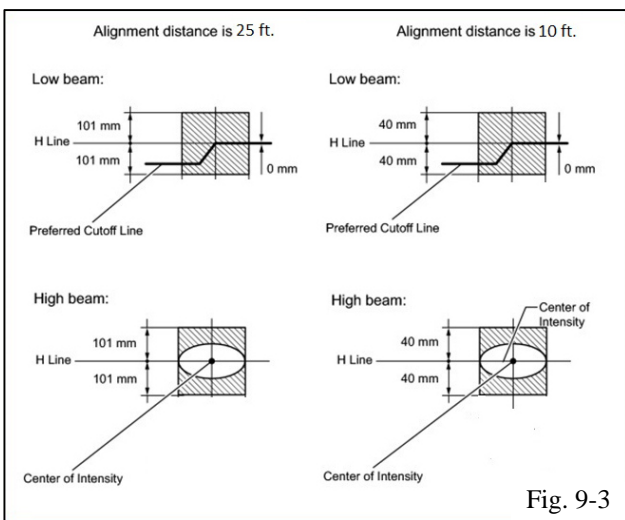

Fig. 9-3
- (b) Adjust the vertical aim of the lamps (Fig. 9-3).
- (1) Cover the headlight on the opposite side to prevent light from the headlight not being adjusted from affecting the headlight aiming process.